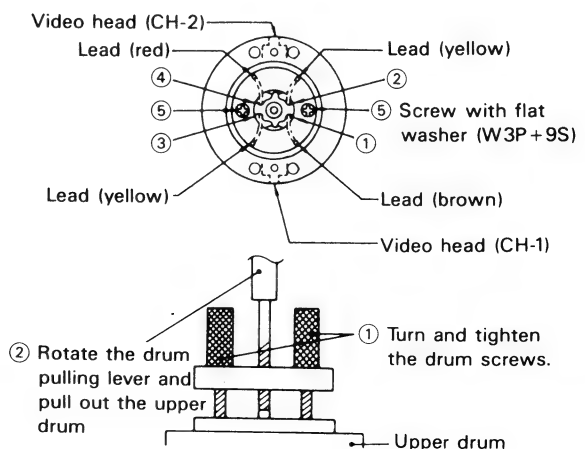

Figure 1-28.
### ● Replacement (See Fig. 1-28)
1. Set a new drum for replacement, as shown in Fig. 1-28, and position the leads properly.